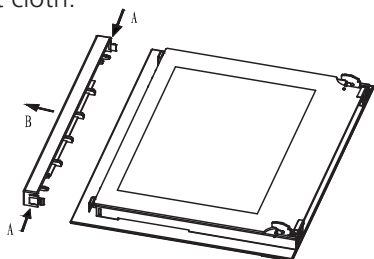

Fig.1
1. Press the button on left and right side of door (A), take out top rail pulling in direction B. (Fig.1)